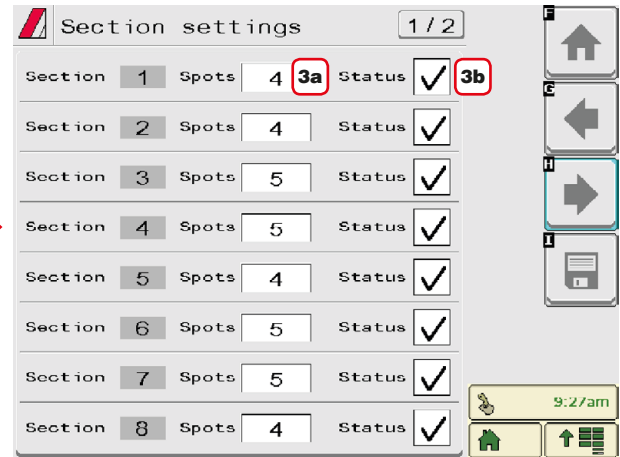

Fig. 36
- 3a Repeat the setup for each section (Fig. 36).